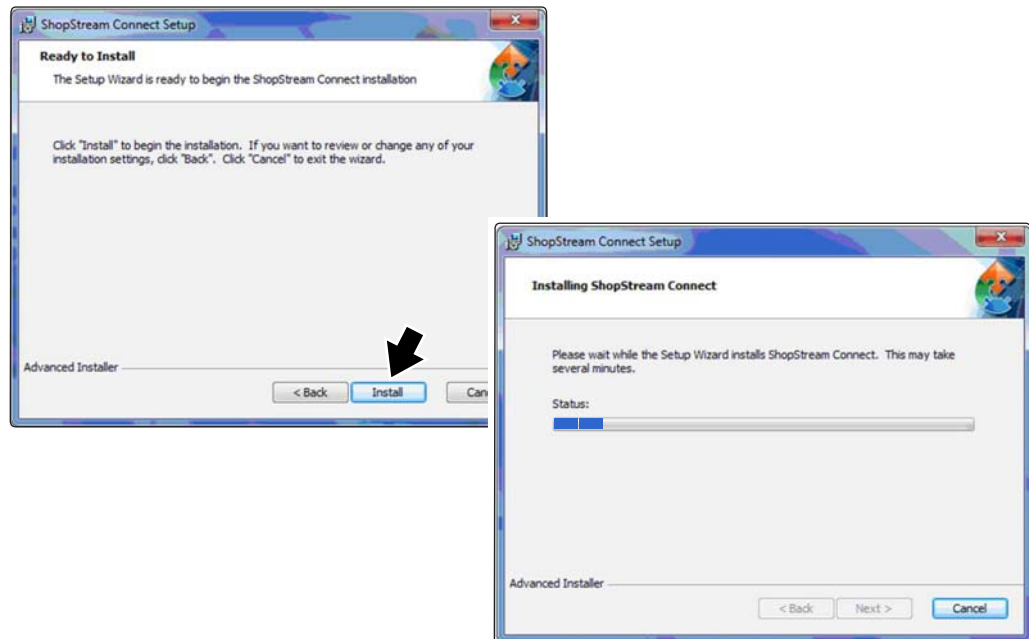

Figure 3-5 Typical install and status screens
5. Select **Install** to begin installation (Figure 3-5).